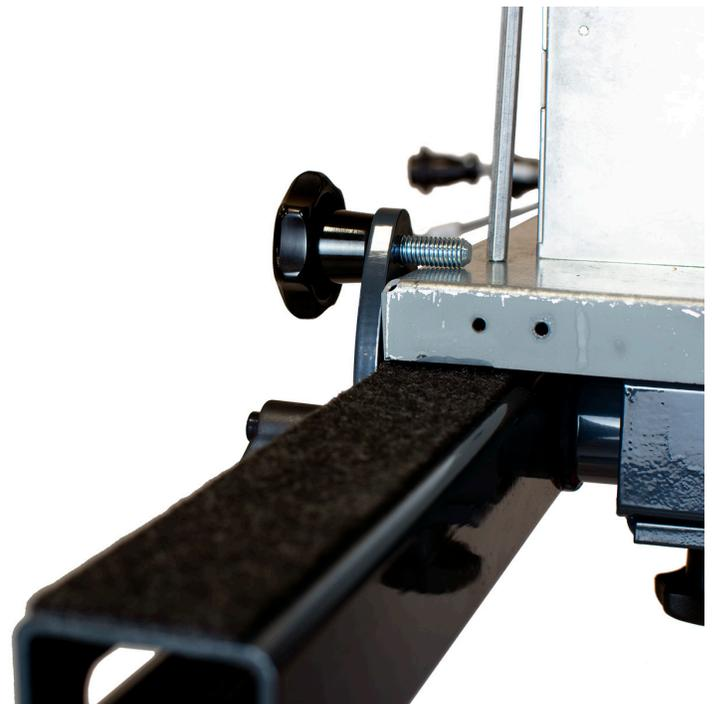

FIG. 5
5. Once both the panel and clamping units are evenly positioned, swing clamping units into place, positioning the threaded portion of the star knobs over the panel edges (Fig. 5). Secure down the clamping units by tightening the adjustable handles.